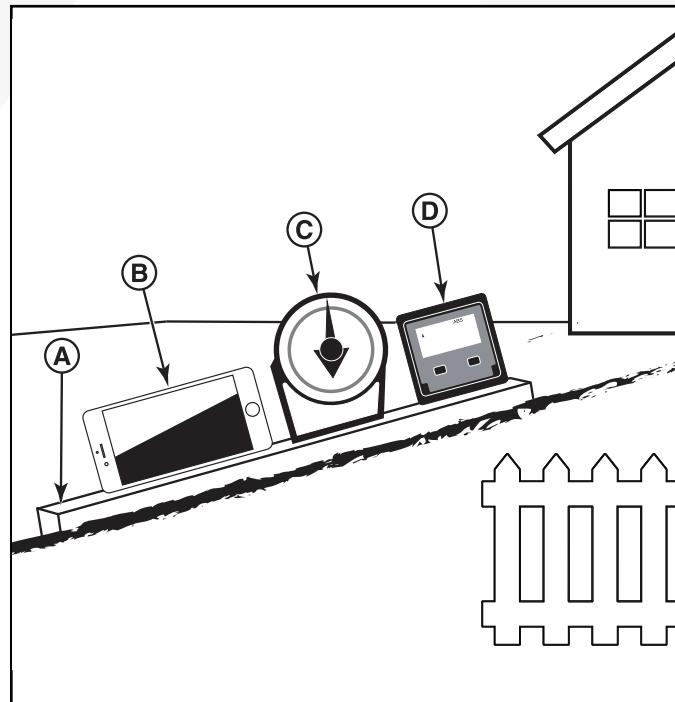

Fig. 1
1. Use a straight edge at least two (2) feet long (A, Fig. 1). A 2x4 or a straight piece of metal works well.
- a. **Use your smart phone:** Many smart phones (B, Fig. 1) have an in-clinometer (angle finder) located under the compass application (app). Or, search an app store for an in-clinometer app.
- b. **Use angle finder tools:** Angle finder tools (C and D, Fig. 1) are available at local hardware stores or online (also called in-clinometer, protractor, angle meter, or angle gauge). Dial type (C) or digital type (D) work, others may not. Read and obey the user instructions supplied with the angle finder tool.
3. Put the two (2) feet long straight edge along the steepest part of the lawn slope. Put the board up and down the slope.